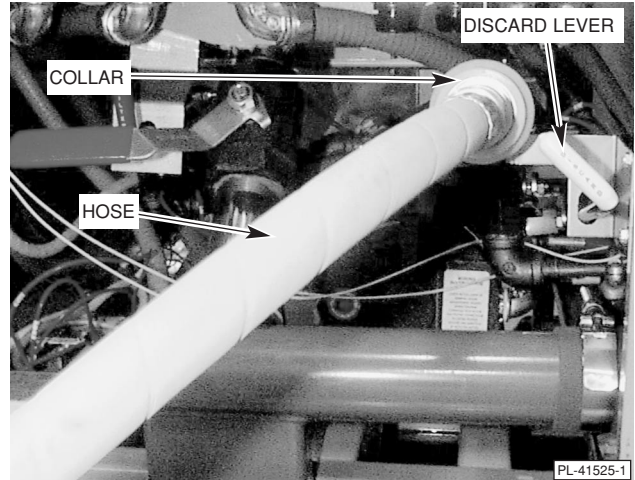

Fig. 9
- Pull white Discard Lever forward (Fig. 9) to permit outflow. Push white Discard Lever back to stop flow.